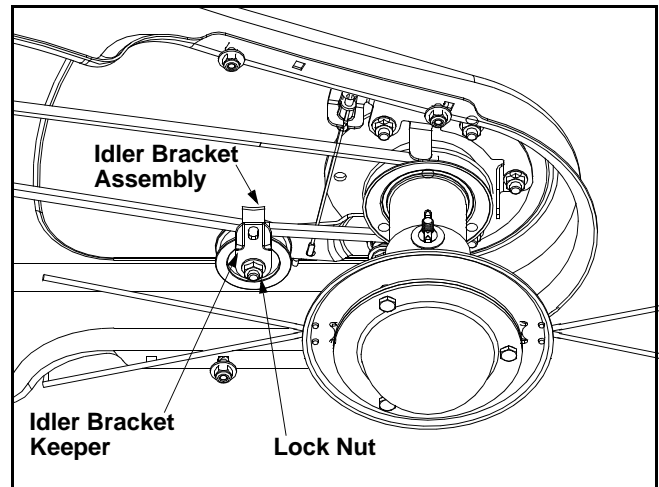

Figure 10
- Remove lock nut that secures idler bracket keeper and idler pulley to idler bracket assembly and remove keeper. See Figure 10.